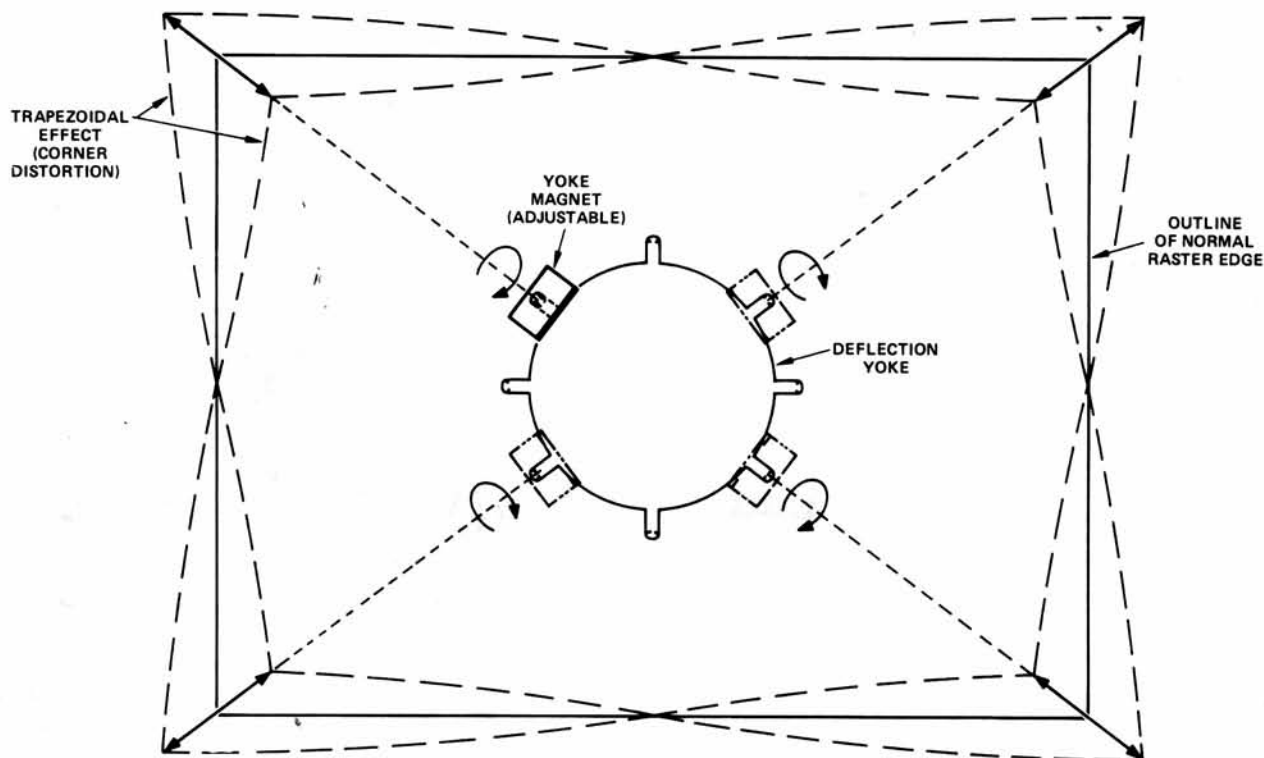

Figure 5. Trapezoidal Effect and Adjustment
Perform this adjustment if the raster exhibits the abnormal effects shown in Figure 5.
- Step 1. Push a magnet onto the yoke mounting pin as shown in Figure 5. Magnet should be placed only on the pin that corresponds to the affected area.
- Step 2. Rotate the magnet to obtain the desired raster, labeled "NORMAL" in Figure 5.